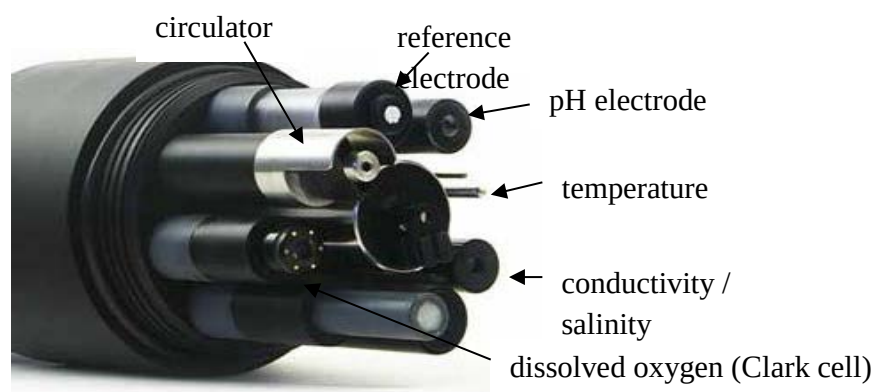

Figure 11.3. Eureka Manta probes. Only those installed on the unit used in this protocol unit are indicated.
1. To launch the Eureka software and communicate with the data logger, press the arrow button on the bottom right hand side of the unit to open the Eureka software. The IPAQ should display the water quality parameters in Figure 11.3.
1. Probes (Figure 11.3) should be inspected and cleaned at the beginning and end of the field season and as necessary after each use.